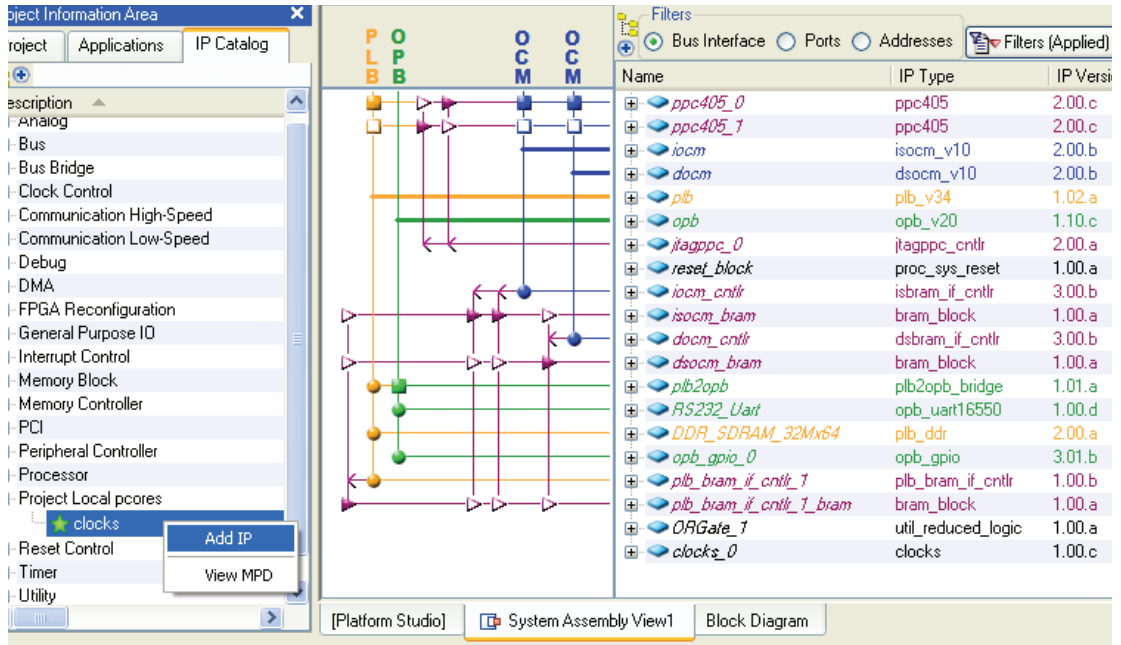

Figure 4: Add Clocks module
3. Right click on **clocks**, then **Add IP** as shown in Figure 4 to add the clocks module to the list of used peripherals.